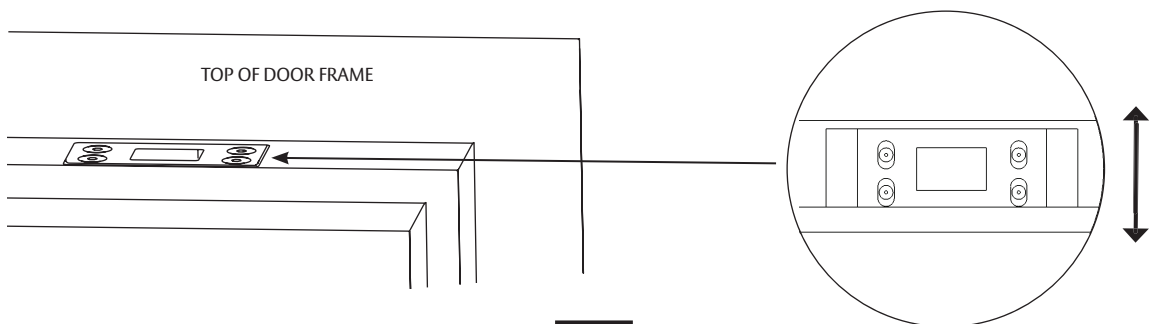

Figure 7
2. Move top strike back and forth until top latch engages strike. (Figure 7)